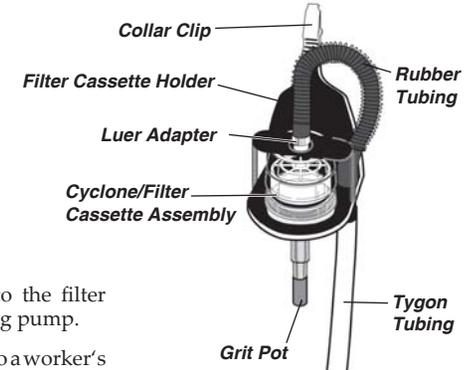

Figure 3.
4. Insert cyclone/cassette assembly through large opening of filter cassette holder (see Figure 3). Ensure assembly is seated firmly in holder by inserting the cyclone's side pin (small round nodule on rim of cyclone) into the notch in the filter cassette holder.